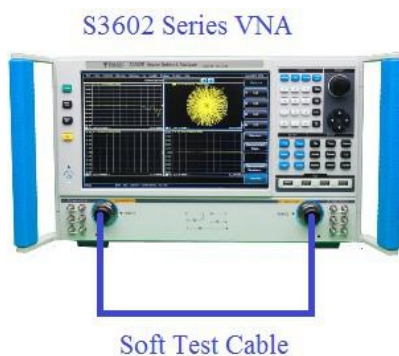

Fig. 11.8 Block Diagram I of Dynamic Range Calibration Test of System
- 1) As shown in Fig. 11.8, connect the system and preheat is for 60min at least.